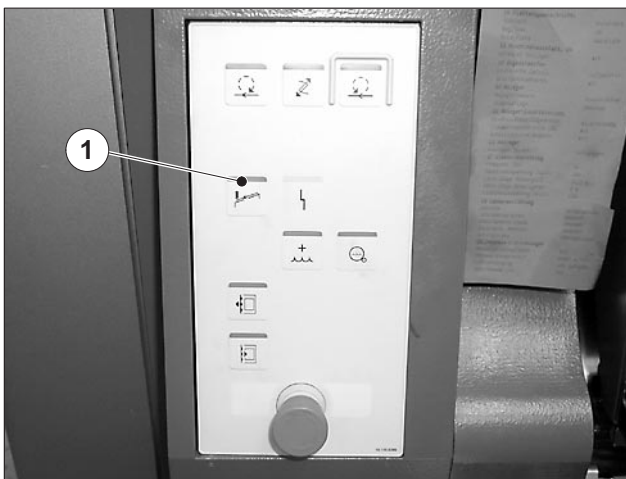

Fig. 59
1. Press the *Release sheet stop finger* button (Fig. 59/1) on the control panel of the first printing unit. Remove the sheet above the sheet arrival detector. The sheet stop finger remains released (sheet stop finger up) as long as you press the button.
To remove the sheets under the sheet stop finger, press the *Release sheet stop finger* button (Fig. 59/1) on the control panel of the first printing unit. The sheet stop finger remains released (sheet stop finger up) as long as you press the button.